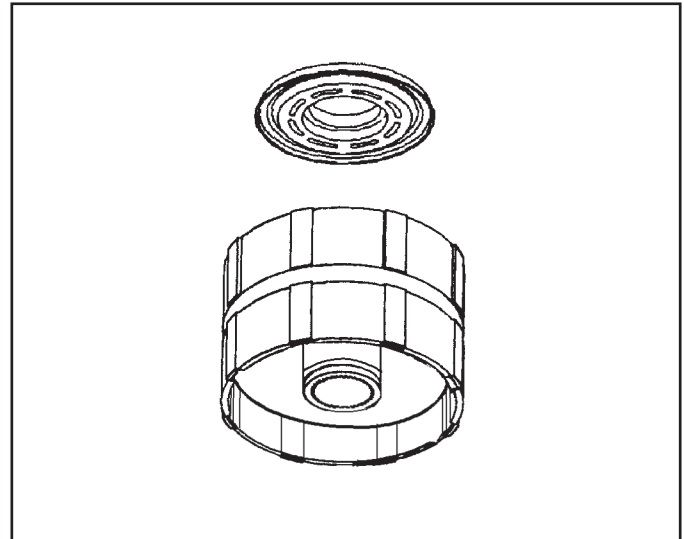

Figure 103
3. Carefully apply approximately 5 psi of air pressure to the clutch housing feed orifice and blow the piston out of its bore or gently tap the drum on the bench until the piston comes out of its bore (See Figure 103).